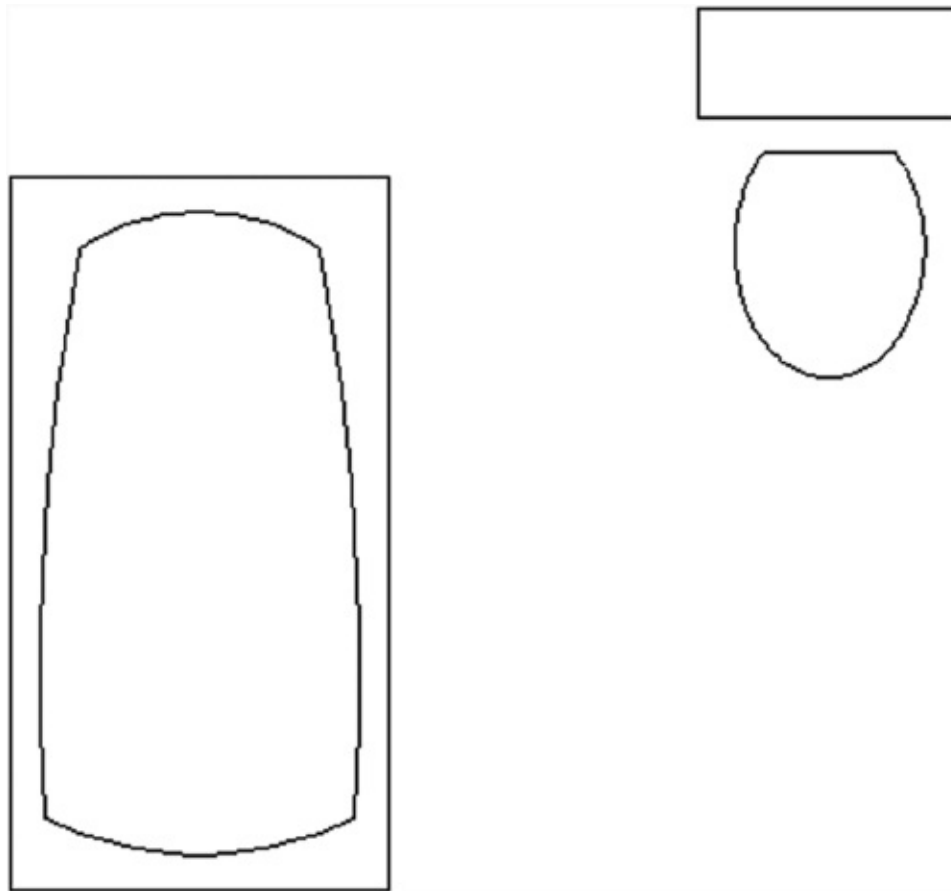

FIGURE 3.14 The drawing after erasing the layout lines
2. After all of the layout lines are highlighted, enter **E** ↵ to use the keyboard shortcut for the Erase command, or right-click and choose Erase from the context menu. Your drawing will look like Figure 3.14.